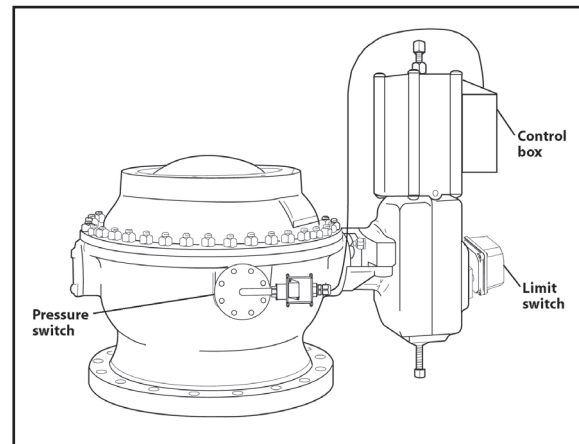

Figure 2. Electrical interlocking system
- ❑ Electrical interlocking system (Fig. 2) consist of two separate pressure switches, limit switches and a control box (including solenoid valves and relay).